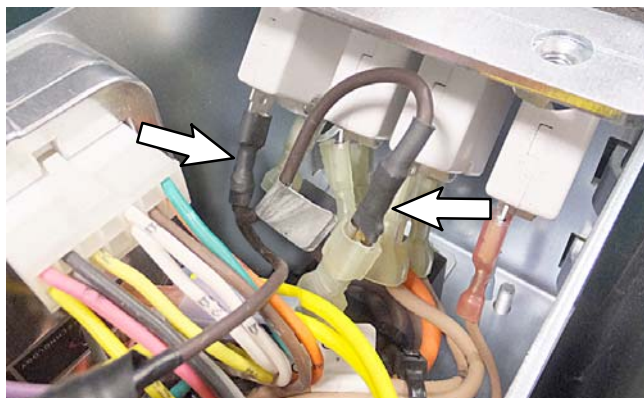

FIG. 2
3. Disconnect telemetry wires, Brown/12 and Brown/12A, from circuit breaker box as shown (FIG. 2).